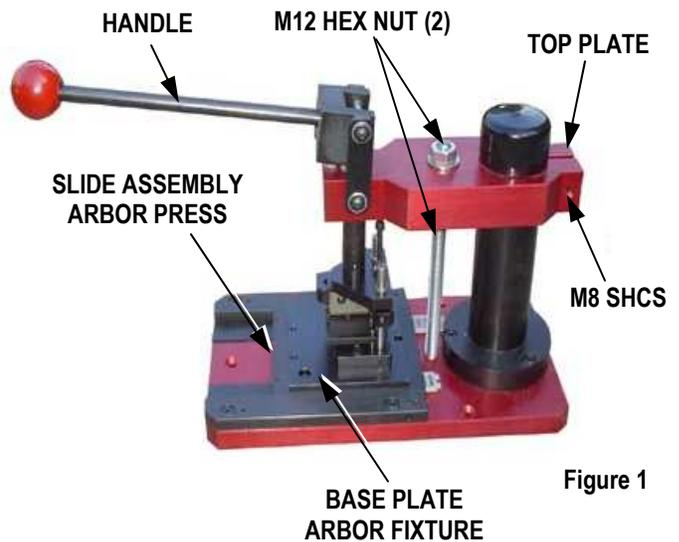

Figure 1
5. Using the M6 SHCS (2) in the Arbor Press fixture install the base plate to the slide assembly on the press.
6. Pull the handle down and tighten the (2) M4 set screws on the arbor fixture. This will attach the upper part of the fixture to the Ram. See Figure 1.
If height adjustment is required loosen the M12 hex nuts and the M8 SHCS on the press. See Figure 1. Set height using the M12 hex nut.